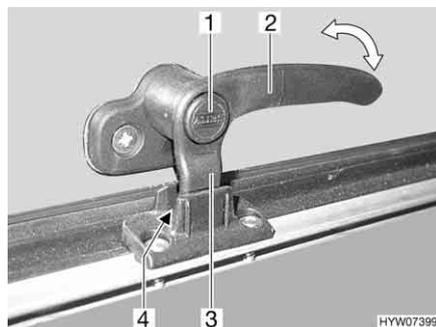
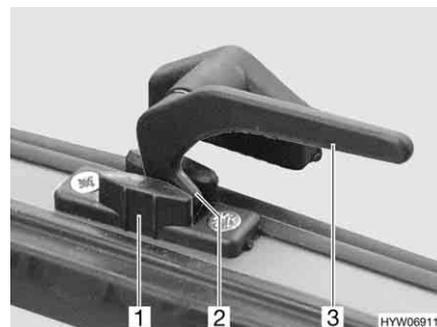

Fig. 67 Catch lever with safety knob in "continuous ventilation" position
Fig. 68 Catch lever in "continuous ventilation" position
- "Continuous ventilation" (Fig. 67 and Fig. 68)
- Press and hold the security button (Fig. 67,1), if present.
- Turn all catch levers (Fig. 67,2 or Fig. 68,3) a quarter turn towards the centre of the skylight.
- Return all catch levers to their initial position. The locking catch (Fig. 67,3 or Fig. 68,2) has to be moved into the recess of the skylight lock (Fig. 67,4 or Fig. 68,1).